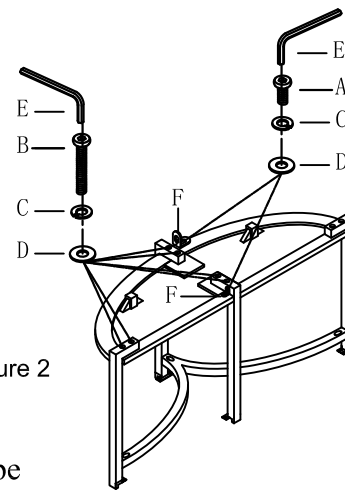

Figure 2
Step 2. Place bottom shelf to support legs and tighten Bolt (B) with Flat Washer (D)+Lock Washer (C) by Allen Wrench (E). Attach L Shape Metal Bracket (F) to center legs and tighten Bolt (A) with Flat Washer (D)+Lock Washer (C) by Allen Wrench (E) as Figure 2 shown.